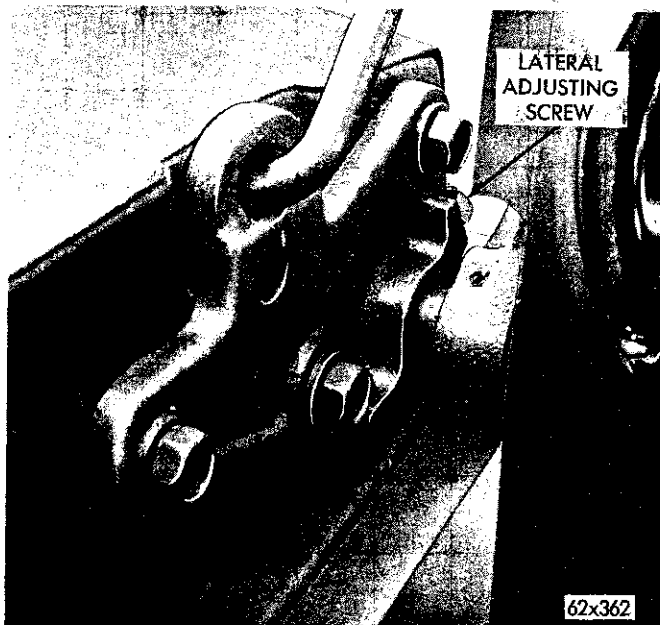

Fig. 94—Torsion Bar Hinge and Aligning Points
(4) Loosen the hinge pivot pin locking screws (Fig. 94).
(5) Use a pencil and outline the hinge plate position on pillar post for future assembly.